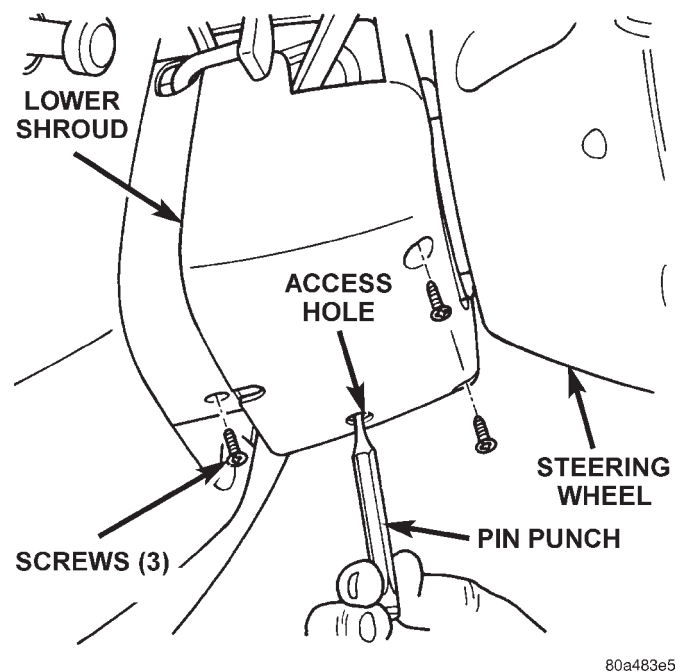

Fig. 13 Steering Column Shrouds Remove/Install
(1) Disconnect and isolate the battery negative cable.
(2) Remove the knee blocker from the instrument panel. See Knee Blocker in Group 8E - Instrument Panel Systems for the procedures.
(3) If the vehicle is so equipped, move the tilt steering column to the fully raised position.
(4) Insert the key in the ignition lock cylinder and turn the ignition switch to the On position.
(5) Insert a small screwdriver or pin punch through the access hole in the lower steering column shroud and depress the ignition lock cylinder retaining tumbler (Fig. 13).